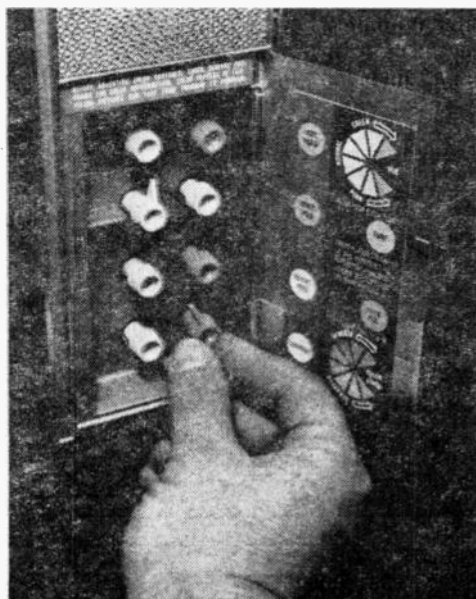

Fig. 3. All conventional controls—hold, width, linearity, etc. must be carefully adjusted first.
1. Conventional Adjustments. These are the familiar controls found on all TV receivers, monochrome or color. They include height, width, focus and linearity (see Fig. 3). Unless preset for proper performance, adjustments which control color will be seriously affected. Even setting of horizontal and vertical hold controls should be done with care. Misadjustment of horizontal hold can cause fanning out at the top of the picture, while a vertical hold set improperly may produce slanting retrace lines. (A suitable crosshatch pattern from the color generator can serve as a guide for these initial picture adjustments.)